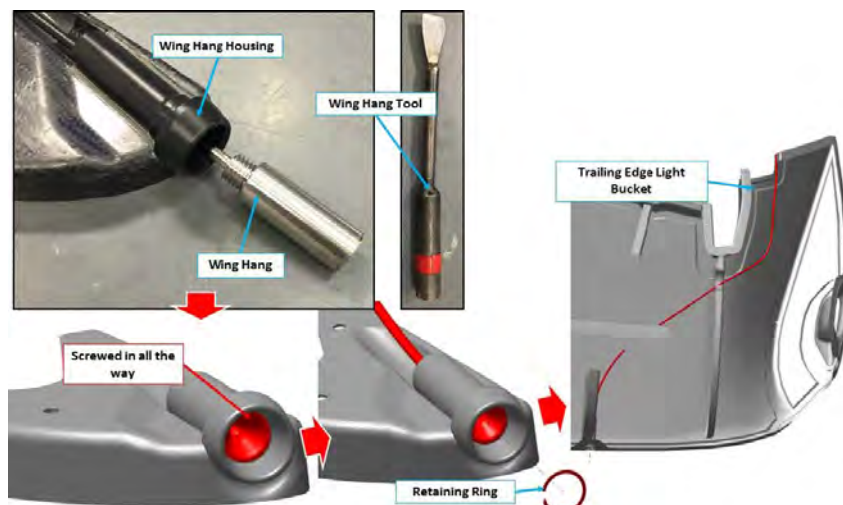

FIGURE 19-13
15. Use the Wing Hang Tool or similar and screw the Wing Hang into the Wing Hang housing. (See Figure 19-13.)